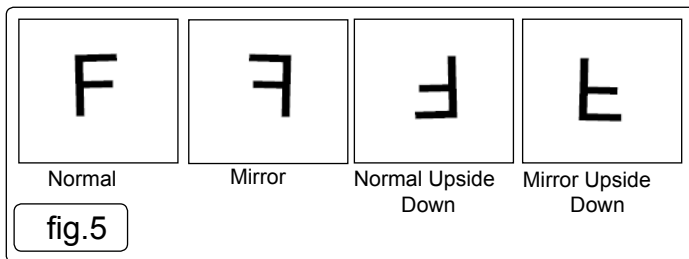

fig.5
- 4.5.2. The images available are shown in (fig.5)